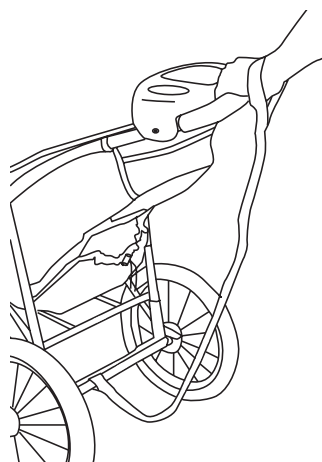
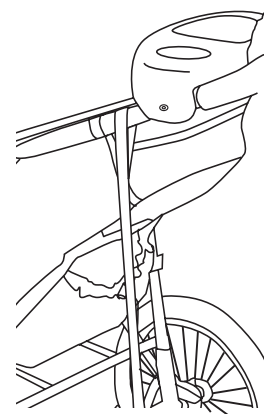

Fig. 10A
Fig. 10B
- **SAFETY TETHER STRAP:** Always connect the safety tether strap to either right or left wrist when jogging. The tether strap will keep the stroller from moving or rolling away in the event that you trip or stumble while running. (Fig. 10A) The safety tether strap must remain connected to the rear lower frame cross member at all times. The safety tether strap can be stored on the left or right side of the stroller with the velcro attachment, when not in use. (Fig. 10B)